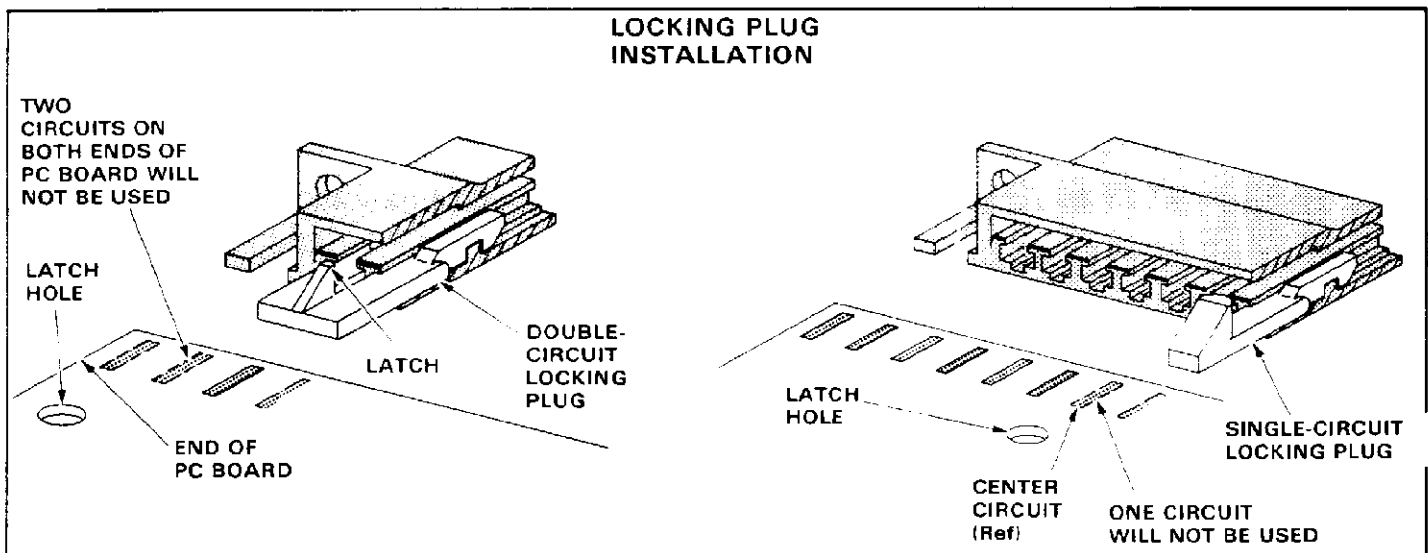

Fig. 5
3. Insert the locking plug into the cavity until it bottoms, then pull back lightly to be sure the plug is locked in position. See Figure 5.